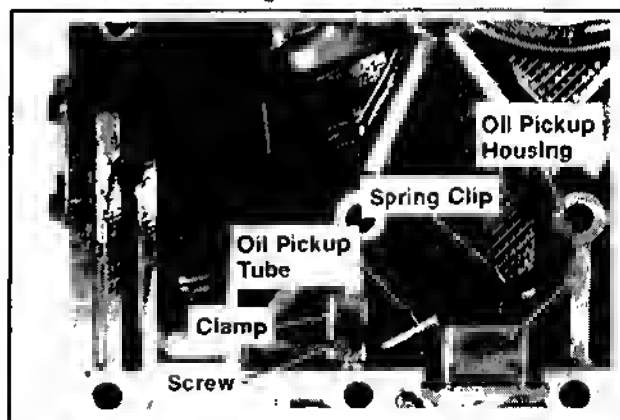

Figure 11-6. Installing Oil Pickup Components.
1. Install the oil pickup tube. Make sure tube is angled upward. Install clamp and self-tapping screw. Refer to Figure 11-6.